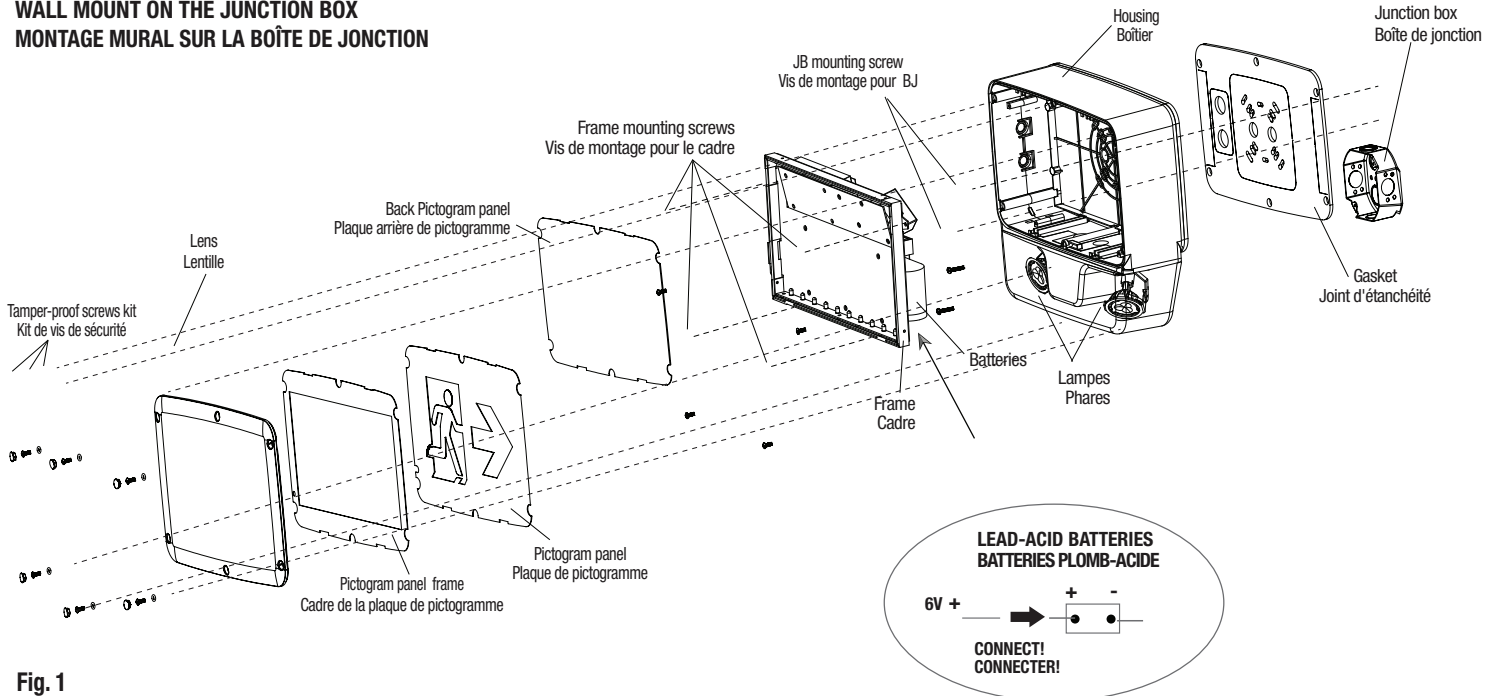
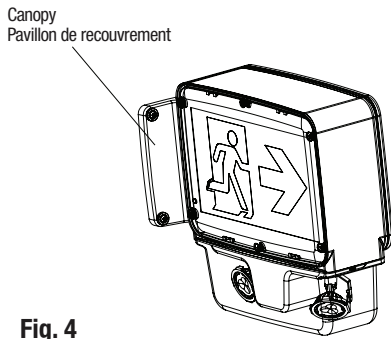
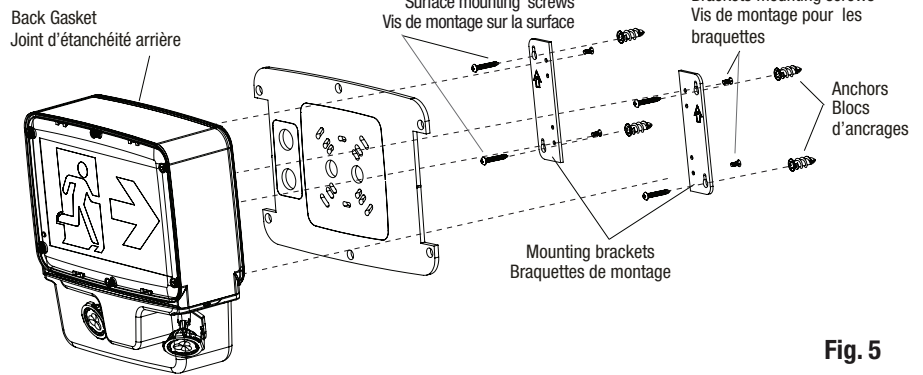

Fig. 1
Fig. 4
Fig. 5
3. Remove the lens, pictogram panels assembly (three pieces) and interior housing frame (unscrew the four frame mounting screws, using a screwdriver PH2X) (Fig. 1).
4.a For wall mount installation only (Fig.1), break through appropriate knockouts into the back housing. Paste properly the gasket on the back of the unit and route the proper wire through the central hole.
4.b For Ceiling (Fig. 2) or End Mount (Fig. 4) installation only, break through appropriate knockout into the top or side of the housing. Align the gasket with the hole and paste it properly on the housing. Attach the housing with the canopy using the nipple assembly and lock nut(s). Align and paste the second gasket on the spider plate. Route the proper wire through the housing, canopy and spider plate holes.
4.c For Mounting Bracket installation (Fig. 5) only, break through appropriate central knockout into the back housing. Remove the sides parts of the gasket and paste it on the back of the unit and route the proper wire through the central hole. Mount the brackets on the back housing using the four screws provided in the hardware bag (use screwdriver PH2X). Place the housing on the required surface and use the bracket holes as a drilling template. Drill the four holes and fix the mounting anchors inside each hole.
6. For Wall (Fig.1), Ceiling (Fig.2) and End mount (Fig.4) installation only use the two screws to mount the back housing or the spider plate to the surface over the recessed junction box. Tighten the screws enough to compress the gasket to ensure a good sealed joint. (use screwdriver PH2X)
7.a For Ceiling (Fig. 2) and End mount (Fig. 4) installation only, attach the canopy with the spider plate using the four tamperproof screws and four o-rings (use the tamperproof bit CR-VT15 provided in the hardware bag). Tighten the lock nuts and the screws enough to compress the gasket to ensure a good sealed joint.
7.b For mounting bracket installation only (Fig.5), mount the fixture on the surface using the two brackets and the four mounting screws provided (use screwdriver PH3X). Tighten the screws enough to compress the gasket to ensure a good sealed joint.
- For the battery lead-Acid connect the cable between the circuit board board and the not connected electrical pole ("+" red color) of the battery (see Fig. 1 detail).
3. Enlever la lentille, l'assemblage des panneaux de pictogramme (trois pièces) et le cadre intérieur du boîtier (dévisser les quatre vis de montage en utilisant le tournevis PHx2) (Fig. 1).
4.a. Pour installation murale seulement (Fig. 1), défoncer les orifices prédécoupés appropriés dans le boîtier arrière. Coller correctement le joint d'étanchéité sur le côté arrière de l'unité et passer les fils électriques par l'orifice central.
4.b Pour l'installation au plafond (Fig. 2) ou l'extrémité (Fig. 4) seulement, défoncer l'orifice prédécoupé appropriée sur le côté supérieur ou latéral du boîtier. Aligner le joint d'étanchéité avec le trou et coller-le de façon appropriée sur le boîtier. Fixer le boîtier avec le pavillon de recouvrement en utilisant l'assemblage du raccord et les contre-écrous. Aligner et coller le deuxième joint d'étanchéité sur la plaque perforée. Passer les fils électriques par l'orifice du boîtier, du pavillon de recouvrement et de la plaque perforée.
4.c Pour l'installation avec braquettes de montage (Fig. 5) seulement, défoncer l'orifice central prédécoupé approprié dans le boîtier arrière. Retirer les parties latérales du joint d'étanchéité et coller-le à l'arrière de l'unité et passer les fils électriques par l'orifice central. Monter les braquettes sur le boîtier arrière à l'aide des quatre vis fournies dans le sachet de pièces (Utiliser le tournevis PHx2). Placer le boîtier sur la surface requise et utiliser les trous du support comme gabarit de perçage. Percer les quatre trous et fixer les ancrages de fixation à l'intérieur de chaque trou.
6. Pour installation murale (Fig. 1), au plafond (Fig. 2) ou l'extrémité (Fig. 4) seulement, utiliser les deux vis (utiliser le tournevis PHx2) pour faire le montage du boîtier ou de la plaque perforée sur la boîte de jonction encastrée. Serrer les vis suffisamment pour comprimer le joint d'étanchéité pour assurer un joint scellé.
7.a Pour installation au plafond (Fig. 2) ou l'extrémité seulement (Fig. 4), fixer le pavillon de recouvrement ensemble avec la plaque perforée en utilisant les quatre vis de sécurité et les quatre anneaux d'étanchéité (utiliser l'embout TORX CR-VT15 fourni dans le sachet de pièces). Serrer les vis suffisamment pour comprimer le joint d'étanchéité pour assurer un joint scellé.
7.b Pour installation avec braquettes de montage (Fig. 5) seulement, fixer l'unité en place avec l'aide de deux supports et les quatre vis de montage incluses (utiliser le tournevis PHx2). Serrer les vis suffisamment pour comprimer le joint d'étanchéité pour assurer un joint scellé. (Fig. 4)